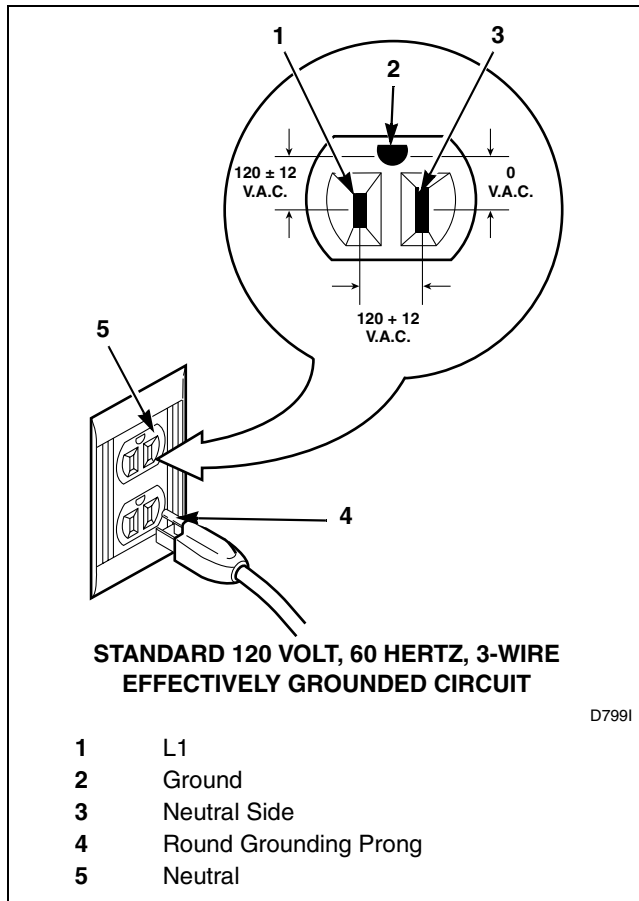

Figure 37
- The three-prong grounding plug on the power cord should be plugged directly into a polarized three-slot effectively grounded receptacle rated 120 Volts AC (alternating current) 15 Amps. Refer to *Figure 37* to determine correct polarity of the wall receptacle.